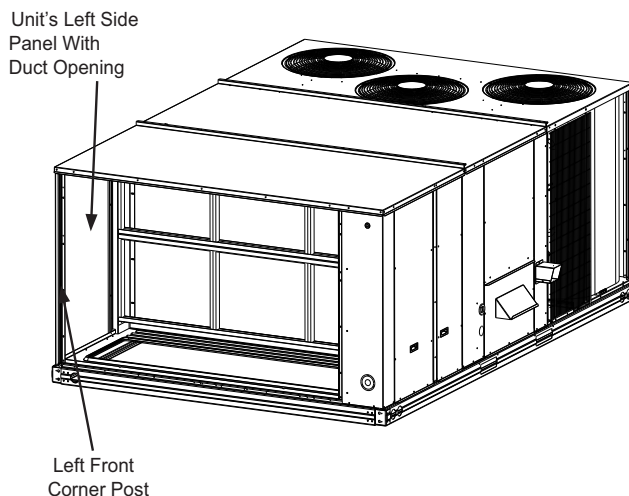

Fig. 16 — Remove Unit Corner Post and Side Panel
4. Remove the unit's left side corner post and left side panel from the unit to allow for easy economizer installation. (See Fig. 16.)